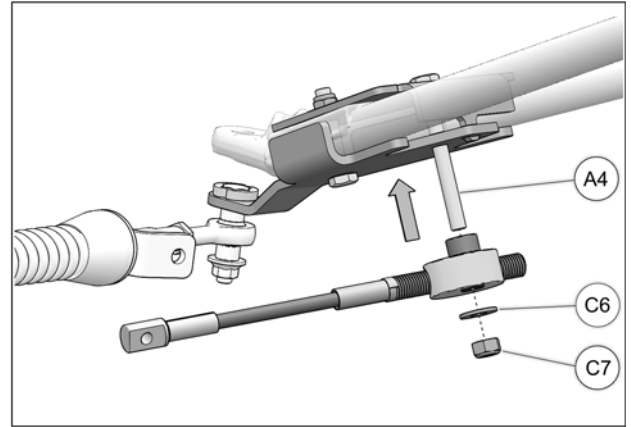

Fig. 24
15. Slip steering limiter cable assembly over M10x100mm bolt (A4) previously installed in step 5. Use supplied washer (C6) and nut (C7) to secure steering limiter assembly in place. Tighten nut to 50 N•m [37 lb•ft]. Refer to Fig. 24